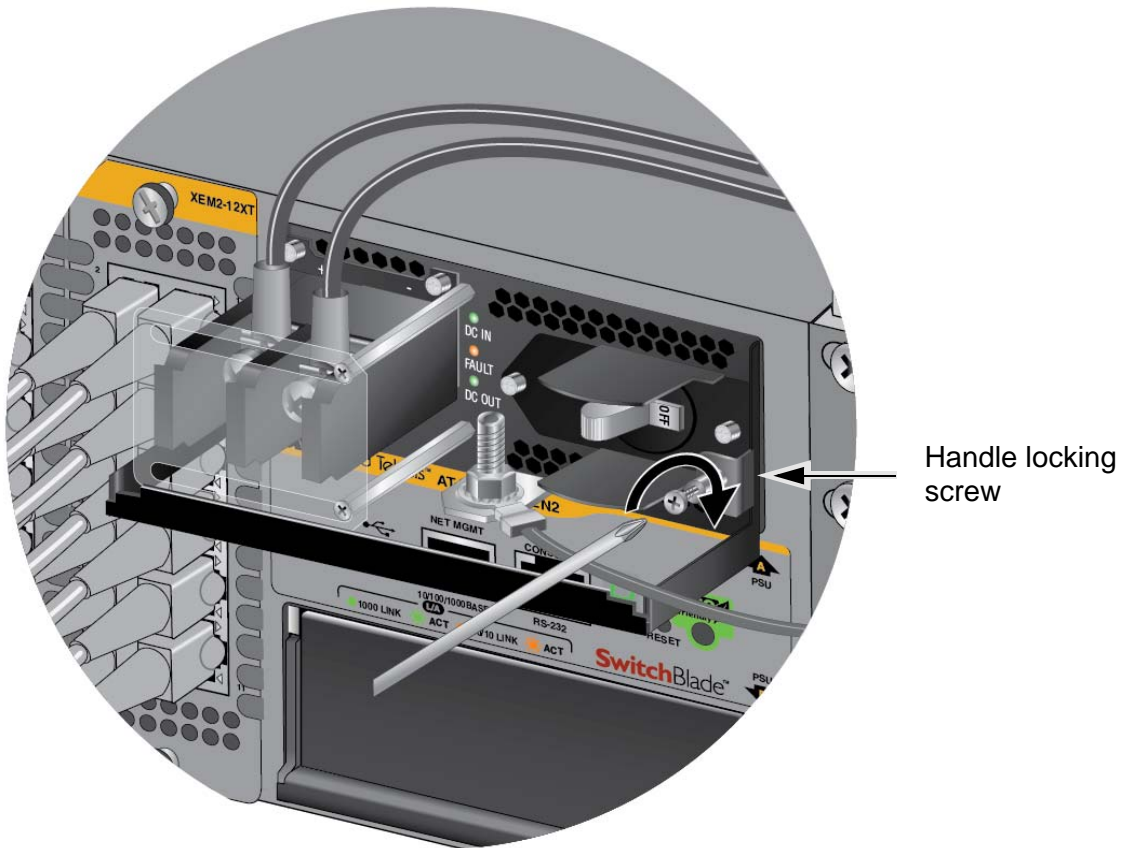

Figure 69. Tightening the Handle Locking Screw
9. With a #2 Phillips-head screwdriver, tighten the handle locking screw to secure the power supply to the chassis. See Figure 69 on page 100.